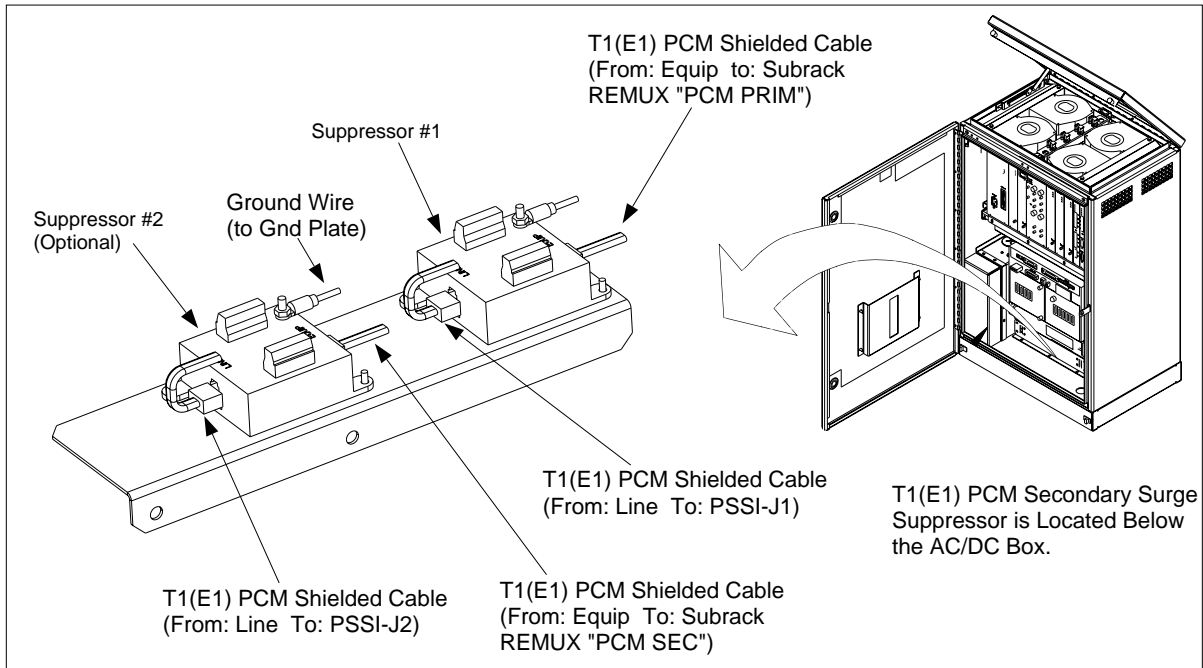

Figure 5-29. T1(E1) PCM Secondary Surge Suppressor Assembly
3. Locate the T1(E1) PCM Secondary Surge Suppressor. See Figure 5-29 on page 5-57.